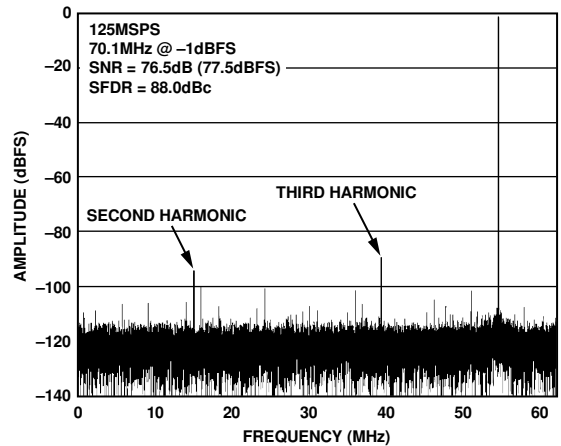

Figure 14. Typical FFT, AD9265/AD9255
- Click the disk icon within the **Graph** window to save the performance plot data as a .csv formatted file. See Figure 14 for an example.